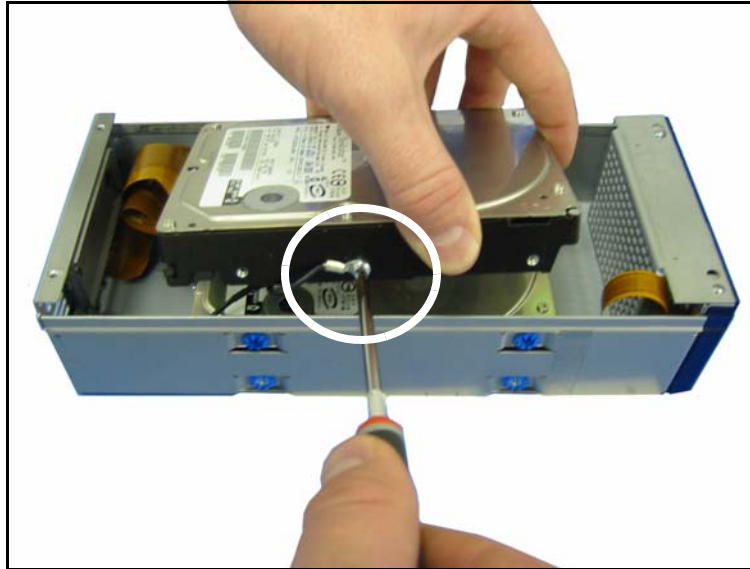

Figure 3-8 The ESD screw (Silver media shown).
4. Use a #2 Phillips screwdriver to loosen the ESD resistor screw on the side of the disk drive (Figure 3-8).